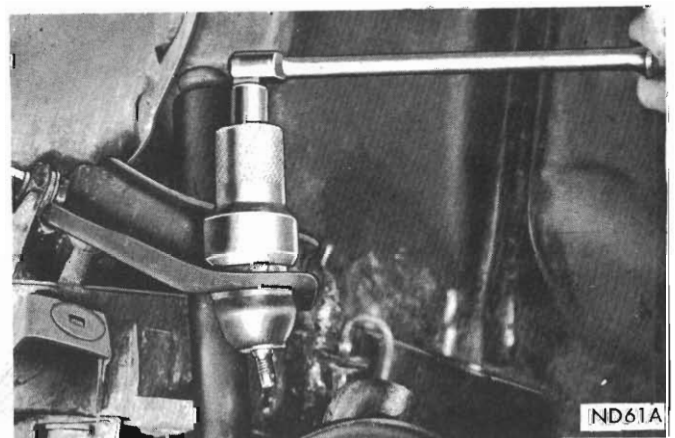

Fig. 17 - Removing or installing upper ball joint using Tool E2C15B
(6) Remove the balljoint using Tool EC215B (Fig. 17). (The seal will come off as the balljoint is removed).
(2) Install balljoint into arm using Tool E2C15B (Fig. 17). Tighten until seated (125 lbs.-ft. minimum). The balljoint will cut threads into new arm during the tightening operation.
(3) Install new balljoint balloon seal using Tool E2C20A.
(4) Spread tool enough to place upper stud under a load, then strike the steering knuckle sharply with a hammer to loosen stud. **DO NOT ATTEMPT TO FORCE STUD OUT OF THE STEERING KNUCKLE WITH TOOL ALONE.**
(5) Remove tool, then remove the balljoint stud from the steering knuckle.
(6) Using Tool E2C15B unscrew balljoint from the upper control arm (Fig. 17). The seal will come off as the balljoint is being removed.